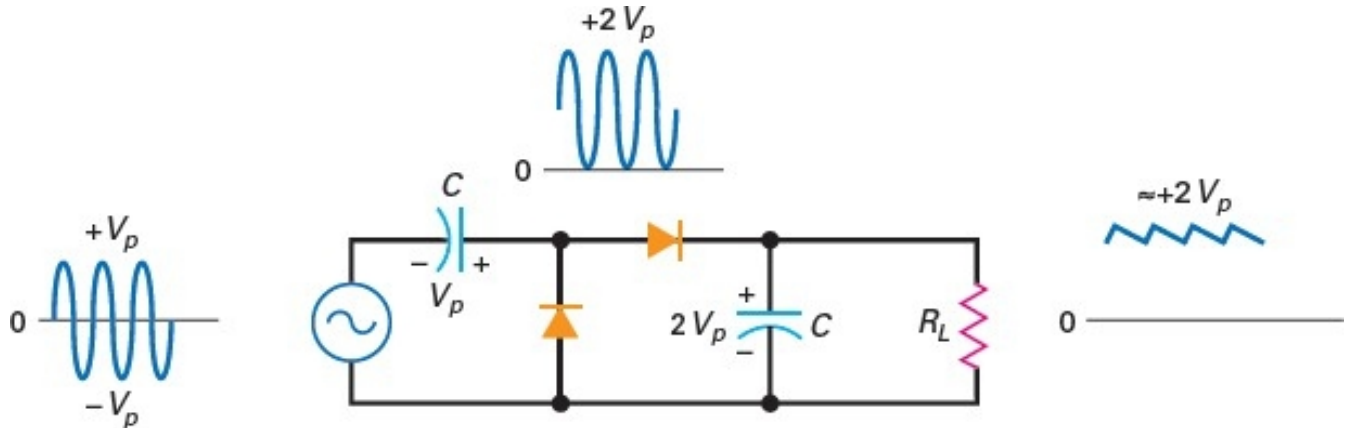

Figure-81 Peak-to-peak detector
- If you cascade a clamper and a peak detector, you get a peak-to-peak detector (see Figure-81). As you can see, the output of a clamper is used as the input to a peak detector.